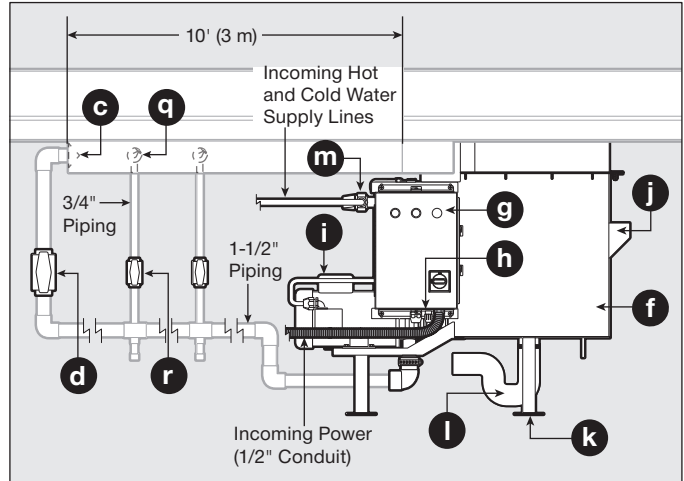

Figure 3. Typical Installation
The PowerRinse Waste Collection System is CUL® US Listed when installed in conjunction with InSinkErator pumps and controls, and per the installation instructions in this Installation, Care, and Use Manual (see Figures 3 and 4 for typical installations).
- e. Waste Collector Base Assembly (see Figure 3)
Figures 3 and 4 illustrate the typical installation of the PowerRinse® Waste Collection System. For a complete list of system components refer to the System Components list located to the left of Figure 3. See Figure 5 on next page for system dimensions.